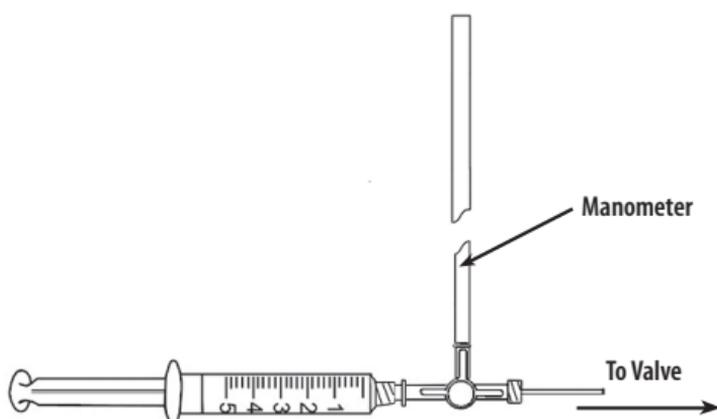

Figure A-1
1. Assemble manometer, stopcock, syringe, and tubing (Figure A-1).